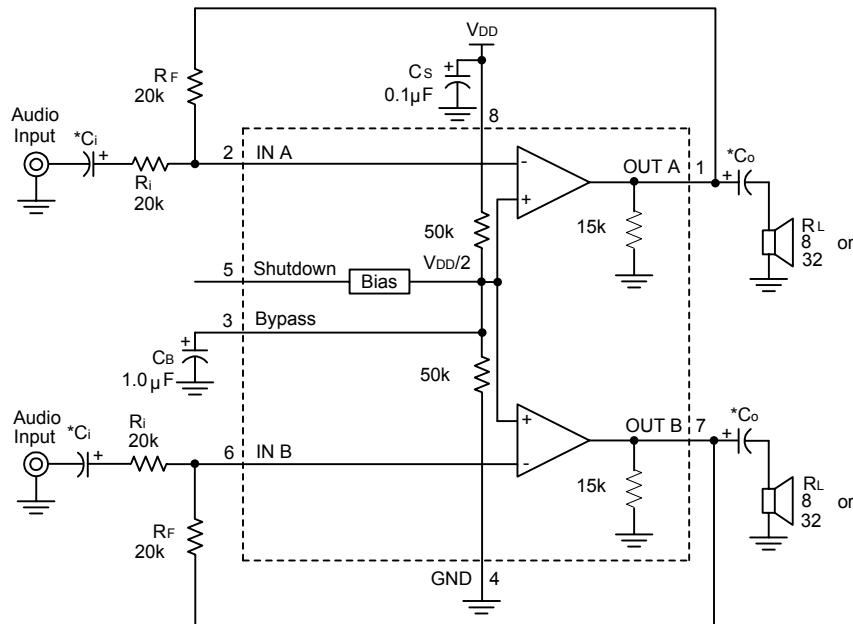

Figure 1.Typical Audio Amplifier Application Circuit
■ EXTERNAL COMPONENTS DESCRIPTION (Figure 1)